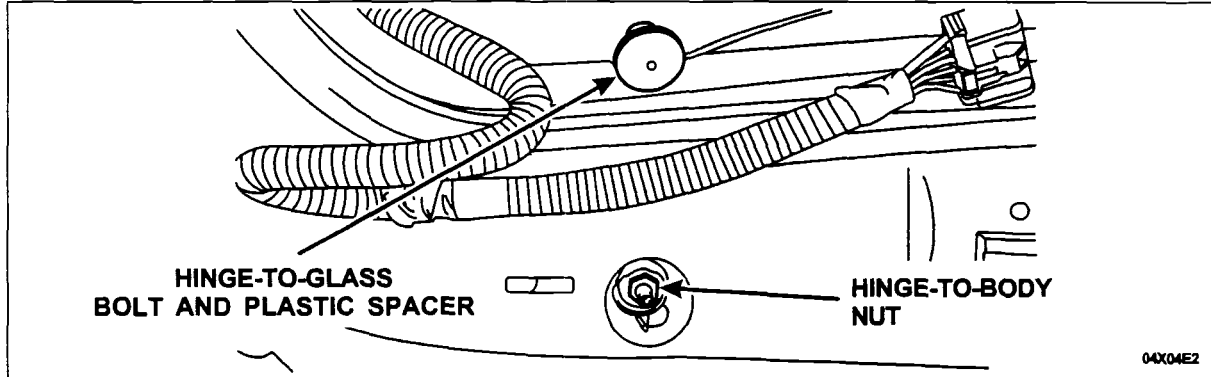

FIGURE 5
- Using a magnetic socket or tool, remove one (1) liftgate glass hinge-to-body nut, then the hinge-to-glass bolt and remove one (1) hinge from the vehicle. Retain the plastic spacers from the hinge-to-glass bolts for use with the *new* bolts. See Figure 5.